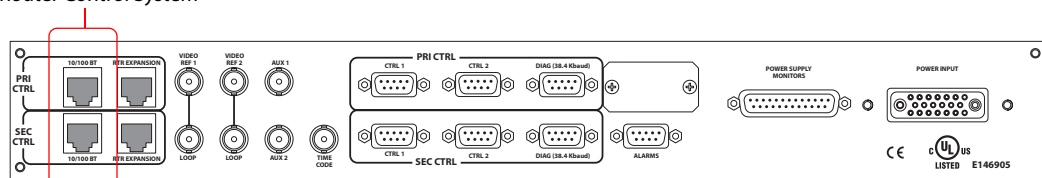

Figure 3-14. Ethernet Connections to Control System (Rear View)
- 1 Locate the Ethernet connections on the rear of the router, as shown in Figure 3-14. The Ethernet connections are labeled '10/100BT'.